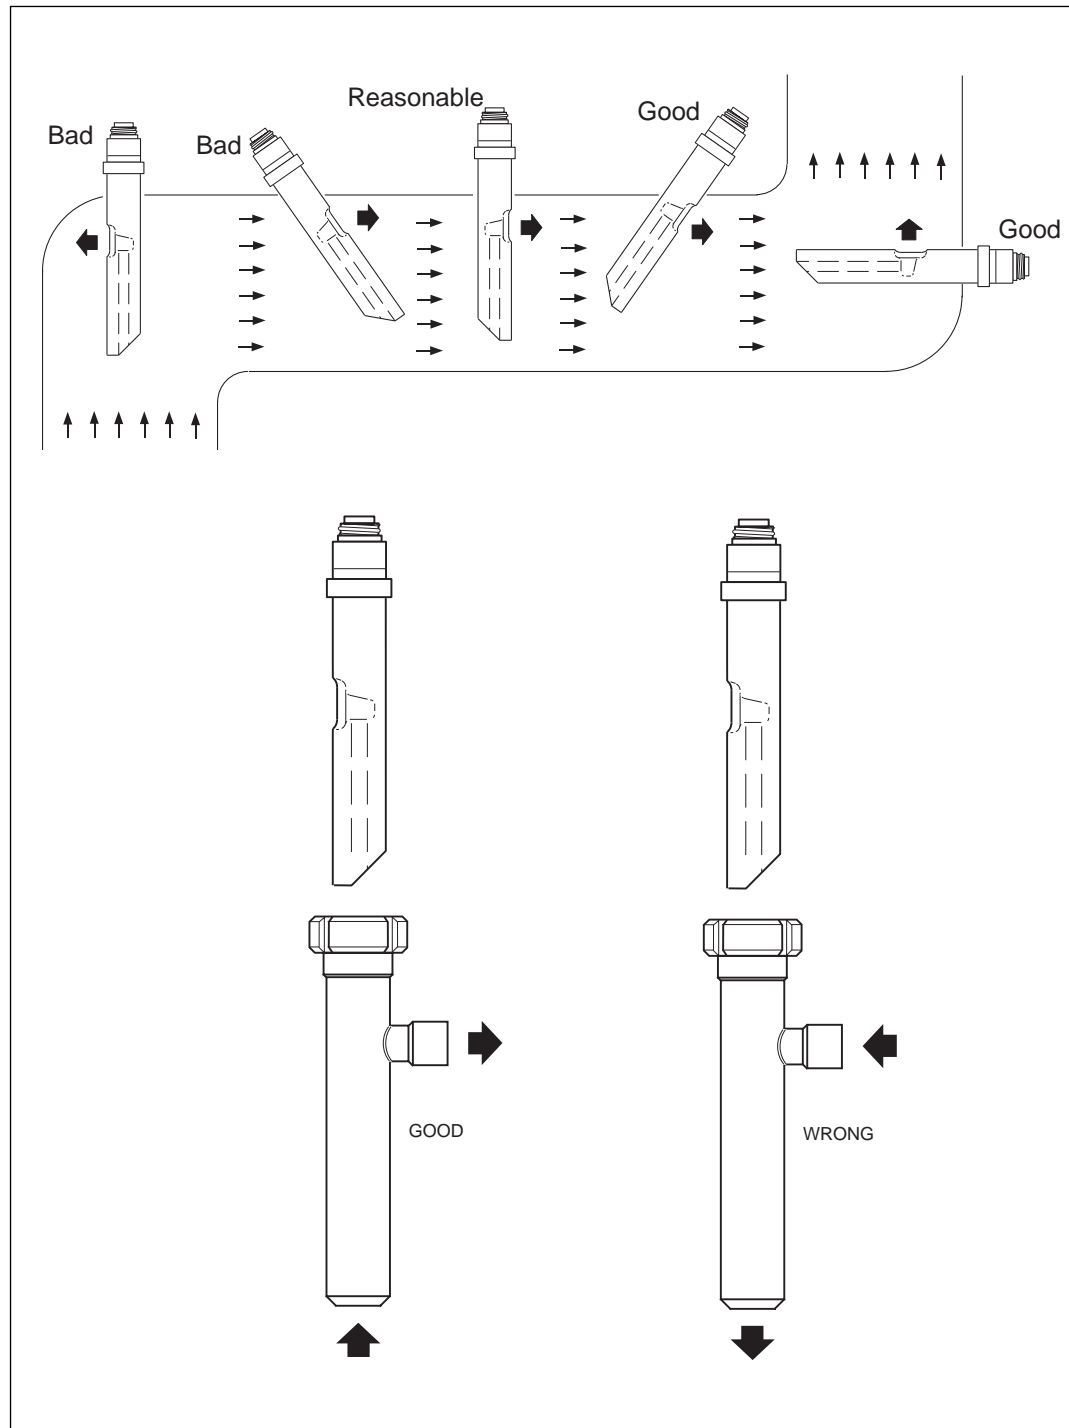

Figure 5
- a good, representative, flow of process liquid through the cell should exist. Hence, the cell must be mounted in the process in such a way that the flow through it represents the true composition of the liquid. The flow through the cell should be uninterrupted and the cell should not be mounted at a "dead" angle (figure 5 gives examples of mounting.)